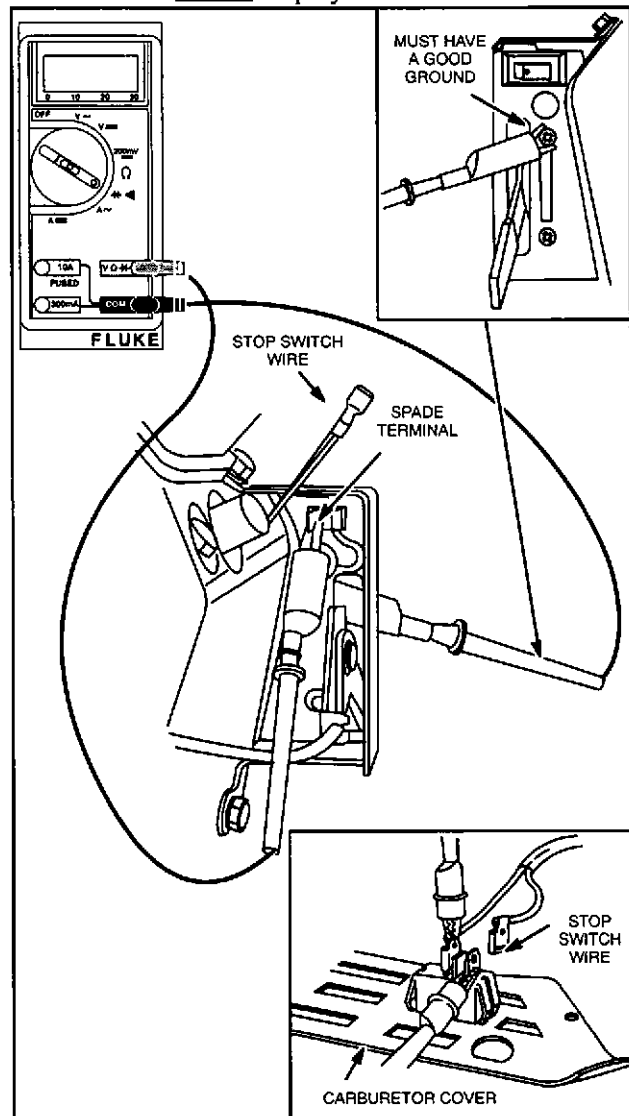

Fig. 20 - Testing Rocker Stop Switch
5. Attach either meter test lead to spade terminal. Attach other lead to switch mounting surface or a good ground Fig. 20.